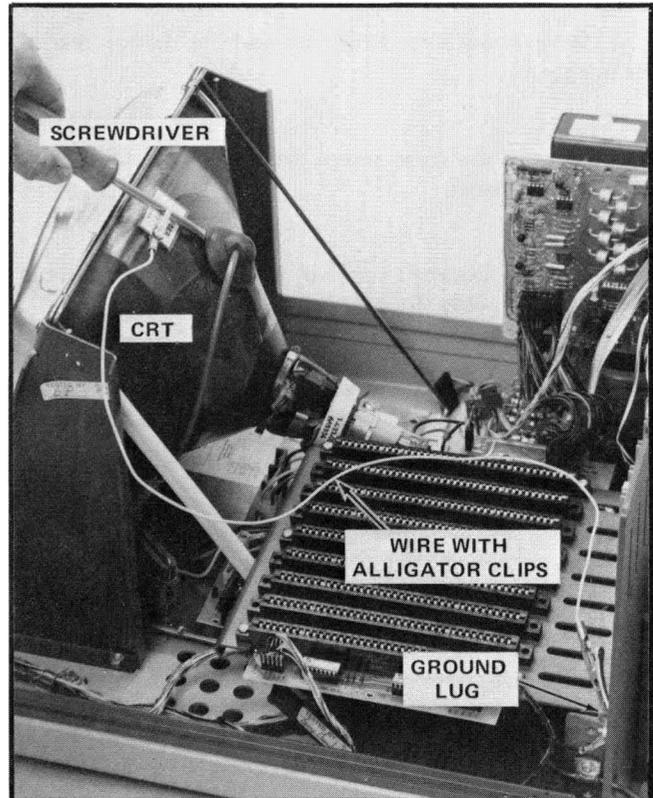

Fig. 3-3. Discharging the high voltage anode.
*When working around or directly with the crt, adequate electrical safety precautions need to be strictly observed. ALWAYS discharge to ground the High Voltage anode lead before removing the crt. High voltage can exist, even if the Terminal has not been operating for several days. Discharge by using a jumper strap similar to the one shown in Fig. 3-3. CONNECT STRAP TO GROUND FIRST.*
5. Remove the High Voltage anode lead by inserting a grounded screwdriver under the rubber grommet (see Fig. 3-3) and pushing when the screwdriver tip makes contact with the wire conductor. This allows one of the wire hooks to be removed from the anode connection. Twist the connector out and up to remove the other anode hook.